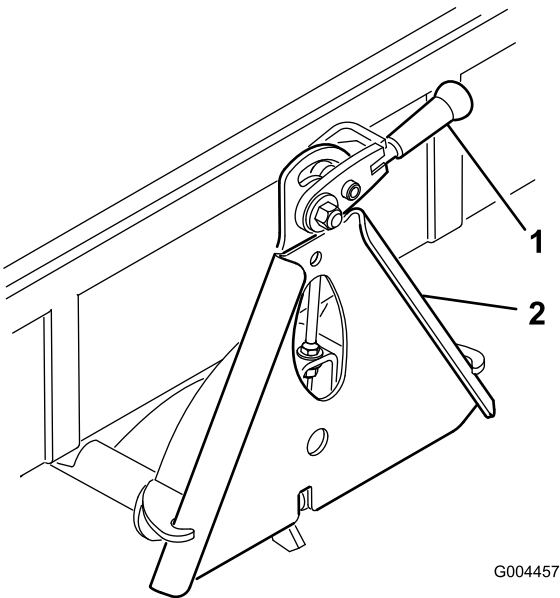

Figure 4
5. Pivot the locking lever to the right to lock the adapters together (Figure 4).